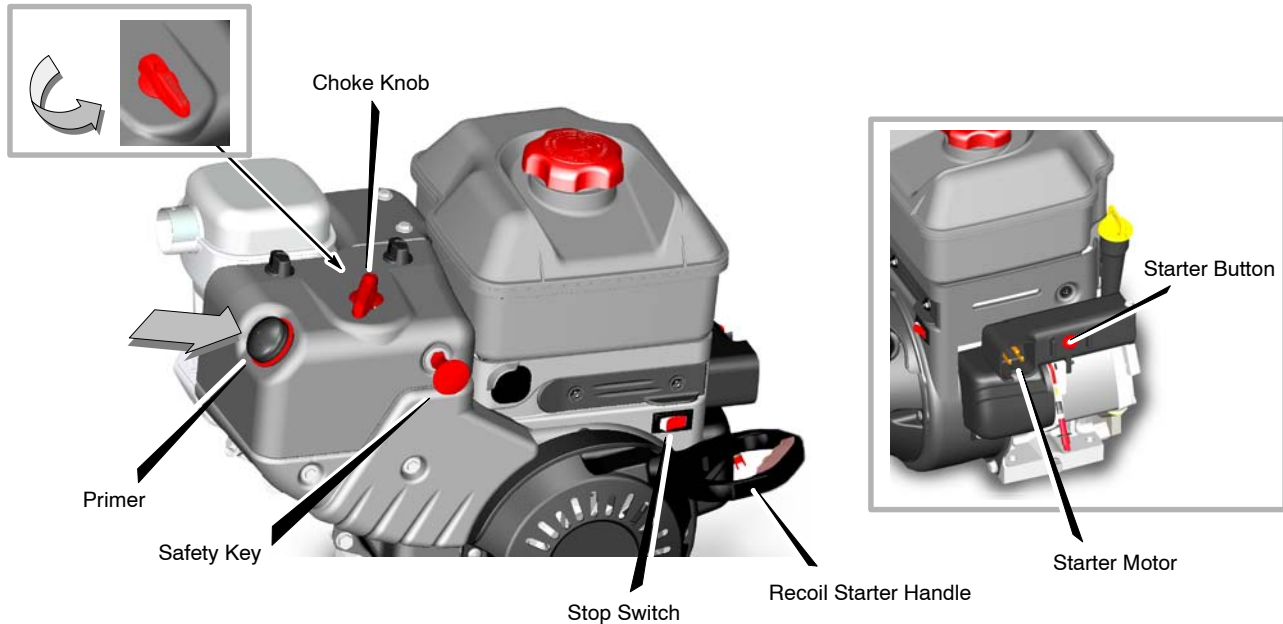

Figure 16
2. Push the **stop switch** to the ON position (see Figure 16).